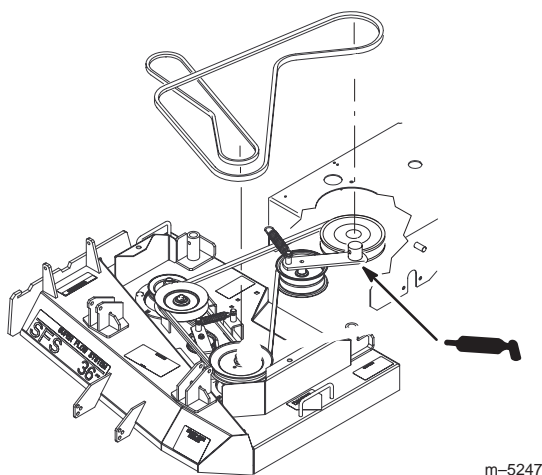

Figure 37
1. Grease the fitting on the PTO belt idler arm pivot (Fig. 37).